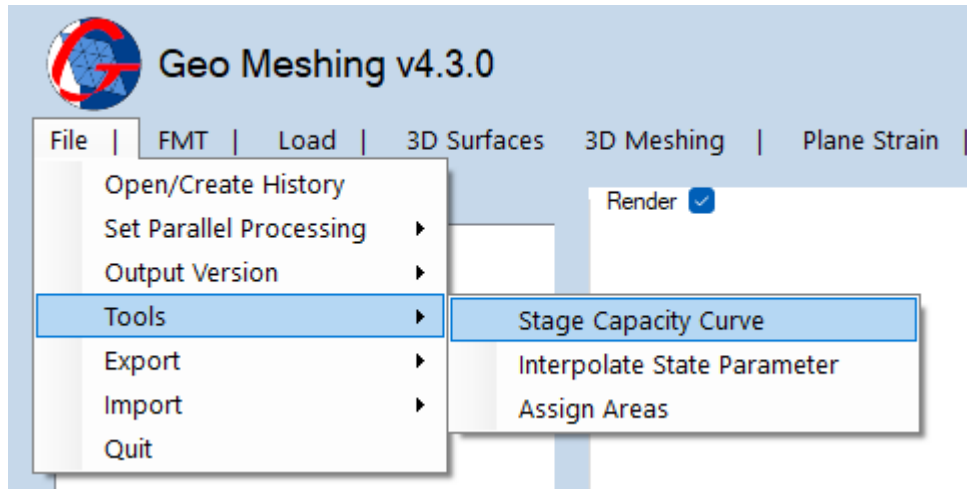

Figure 11: File Menu – Tools.
- **File Menu, Tool:** This option (shown in Figure 11) has a submenu with three options.